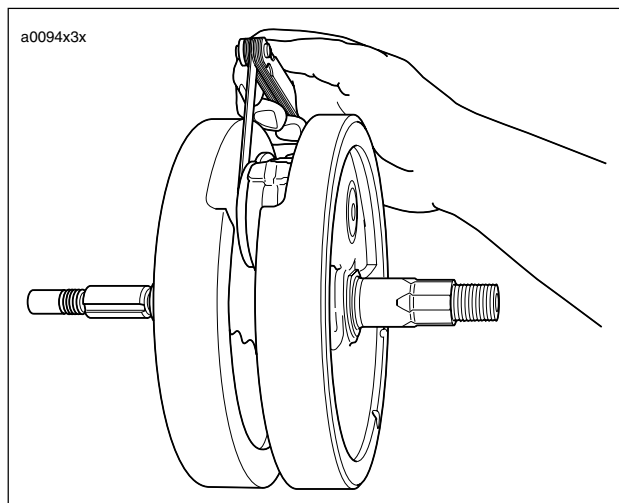

Figure 3-122. Checking Connecting Rod Side Play
1. See Figure 3-122. Check connecting rod side play with a thickness gauge as shown.